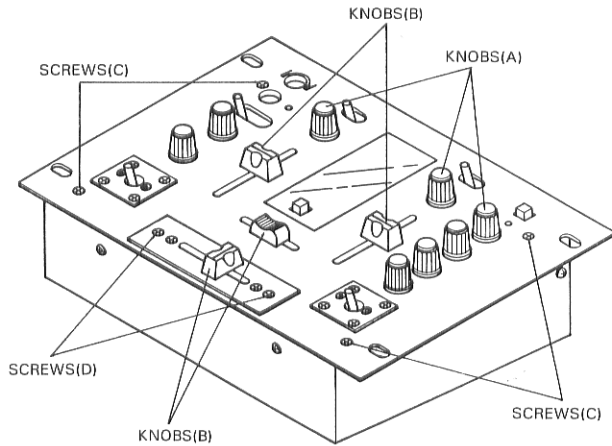

Fig. 1
- (a) Remove 8 knobs(A). (Fig.1)
- (b) Remove 4 knobs(B). (Fig.1)
- (c) Remove 4 screws(C). (Fig.1)
- (d) Remove 2 screws(D). (Fig.1)